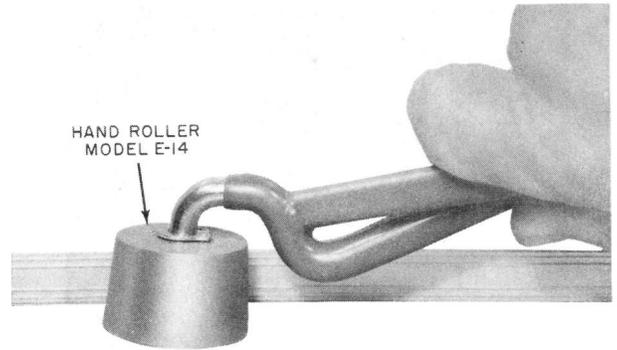

Fig. 3—Applying Roller to Wire Run
- (1) Allow sufficient amount of B station wire for connecting to transition or terminal at beginning of run.
- (2) Apply adhesive side of wire to mounting surface and press firmly.
- (3) Continue to dispense wire, applying hand roller (Fig. 3) to adhere wire to mounting surface. **Finger pressure alone is insufficient.**